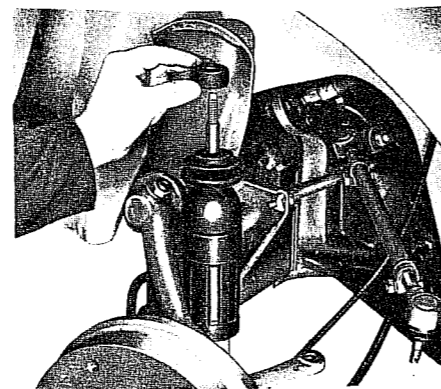

Fig. H.7. Fit the lower damping ring with its shoulder upwards as shown.
3. Place one damper ring with its shoulder upwards on the buffer pin, pass the pin through the mounting hole and then fit the other one with its shoulder downwards (Fig. H 7).